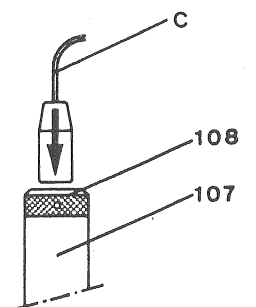

Fig 30
10. Connect the cable (C) of the servo-mechanism to the socket (108) located at the upper end of the oil-level indicator tube (107) (fig. 30).